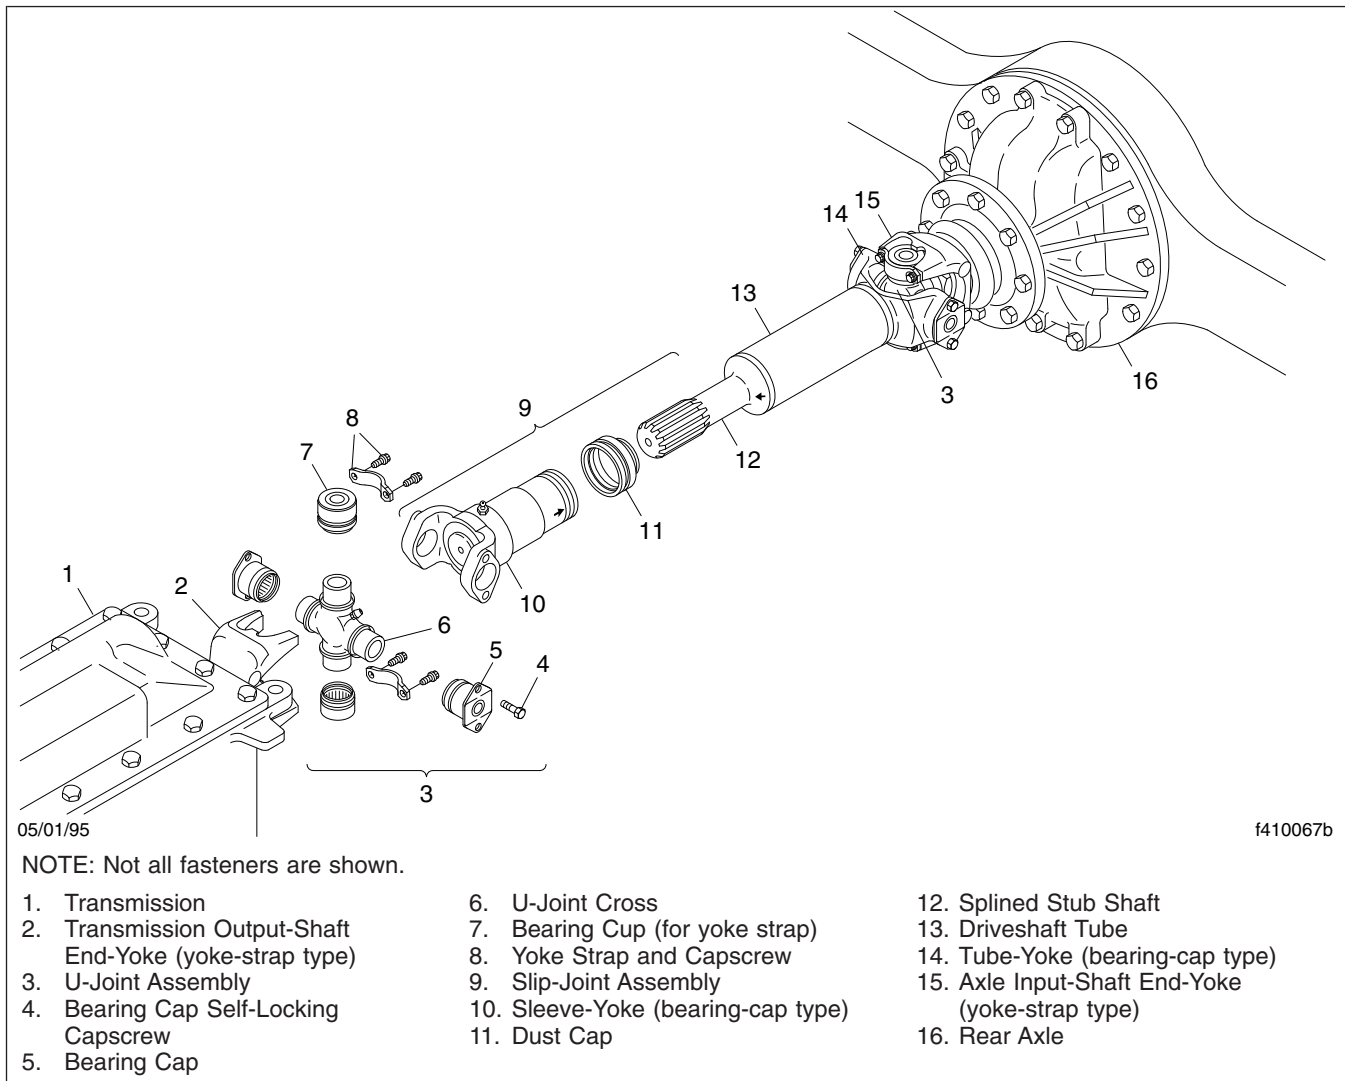

Fig. 3, Components of a Basic Driveline
For driveline universal joints with yoke straps, tighten yoke-strap capscrews 125 lbf·ft (169 N·m). See Fig. 3.
3. Check the driveline yokes for cracks, and check end-yokes for looseness. See Fig. 3.